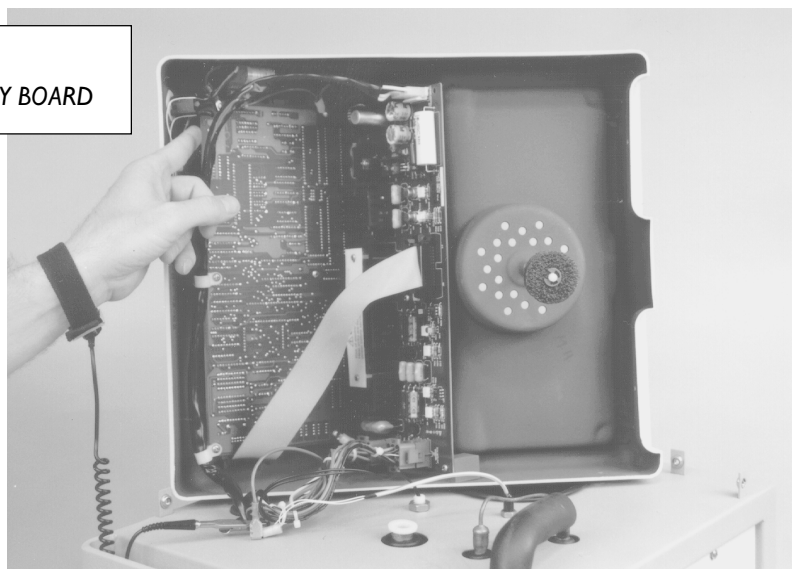

Figure 5—Initiating service mode 1
Wear a static control device connected to the chassis ground to prevent electrostatic discharge. (See figure 5, p. 35.)
3. Lift the head, press and hold service button S3 on the low voltage control/display board (figure 5), then turn the machine on.
To access	Press and hold S3 (see figure 5, p. 35) on the control/display board, then turn machine on.